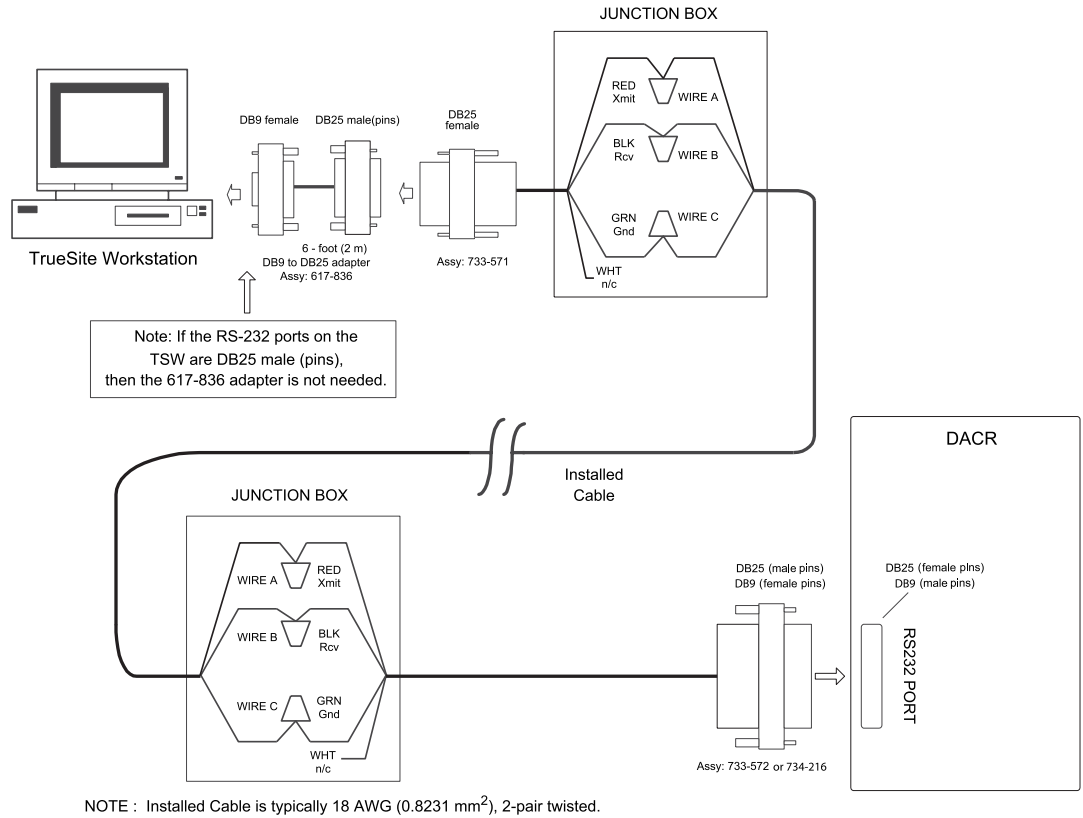

Figure 6-1 Connecting DACR to the TrueSite Workstation with Adapter Cable
- If you are connecting the DACR to the TrueSite Workstation with an adapter cable (using DB9 connector), refer to the diagram in Figure 6-1 for detail.